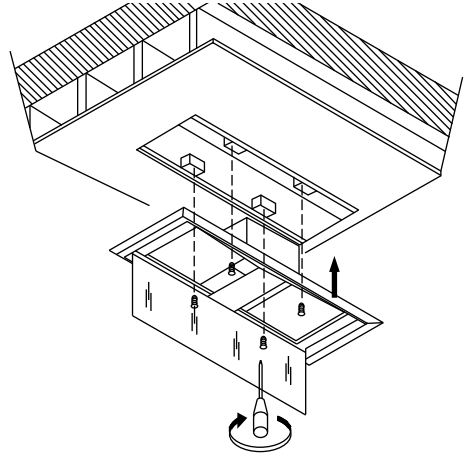

Fig 5
3. Fix the hood into the ceiling (Fig 5)